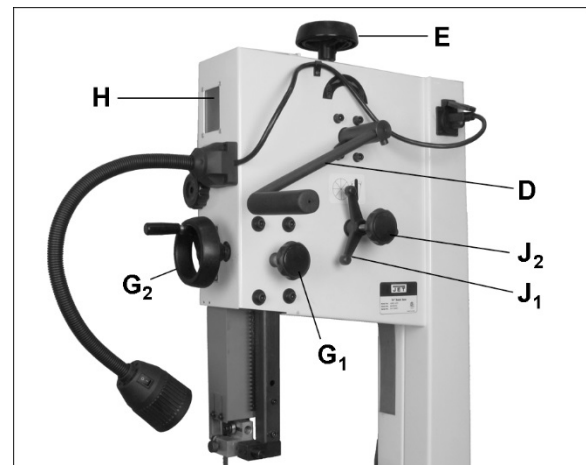

Figure 5-7 (shown with optional lamp)
6. Raise quick tension lever (see D, Figure 5-7) to release position. If needed, rotate tension handwheel (E, Figure 5-7) counterclockwise for further de-tensioning.
Refer to Figures 5-7 and 5-8.
1. Lower tension lever (D, Figure 5-7) to tension position.
2. Set proper blade tension by rotating handwheel (E, Figure 5-7), clockwise to tighten, counterclockwise to loosen.
4. Loosen guide post locking knob (G₁, Figure 5-7) and use handwheel (G₂) to lower guide post until you can see blade through tracking window (H).
3. Lower blade tension lever (see D, Figure 5-7) to tension position.